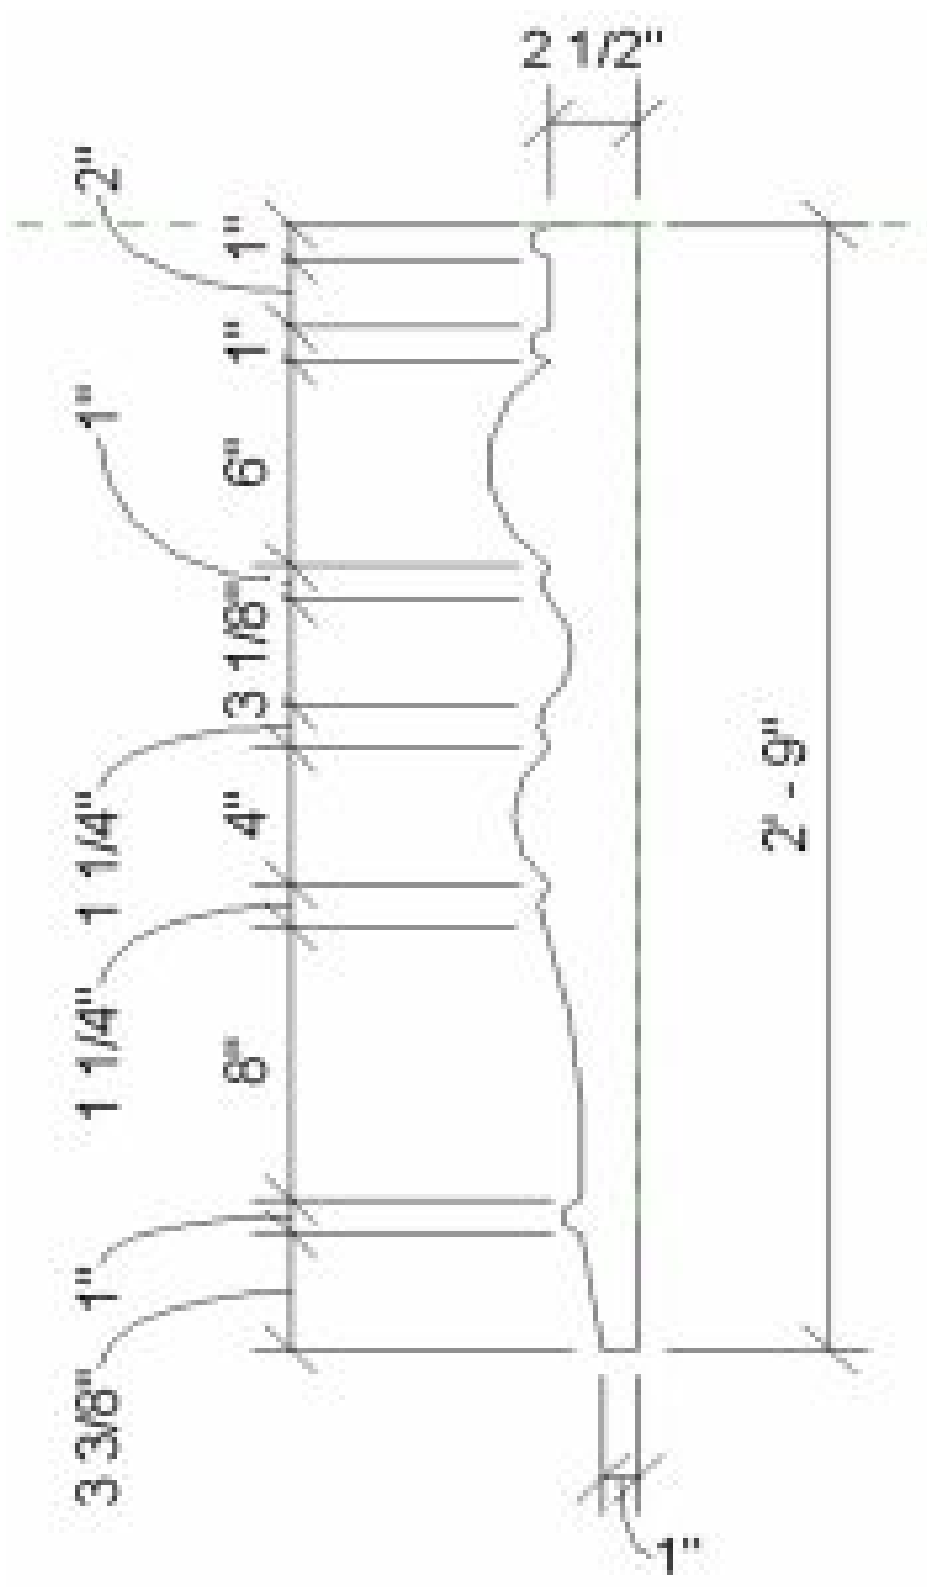

Figure 5.1 Profile shape and dimensions in 2D
10. In the Draw panel, use the Line tool  and Start-End-Radius arc tool  to draw the profile shown in Figure 5.1